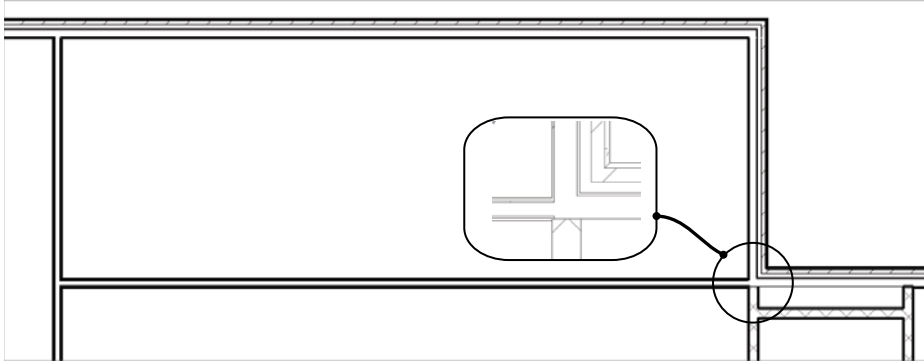
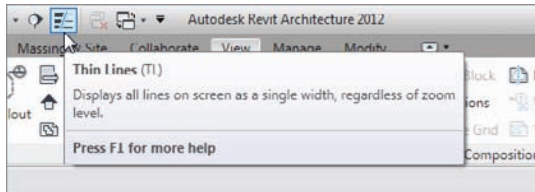

FIGURE 2.50 The wall and the resulting intersection
FIGURE 2.51 Click the Thin Lines icon to see how the walls are joining together.
4. The wall may be flipped in the opposite direction from Figure 2.50. If it is, remember to press the spacebar; doing so flips it up to the proper orientation.
5. Pick the second point of the wall at the corridor in the middle of the building. Press Esc twice. The intersection should look like Figure 2.50.
6. Zoom back in on the intersection. If the view doesn't resemble Figure 2.50 in terms of line weight, click the Thin Lines icon, as shown in Figure 2.51.